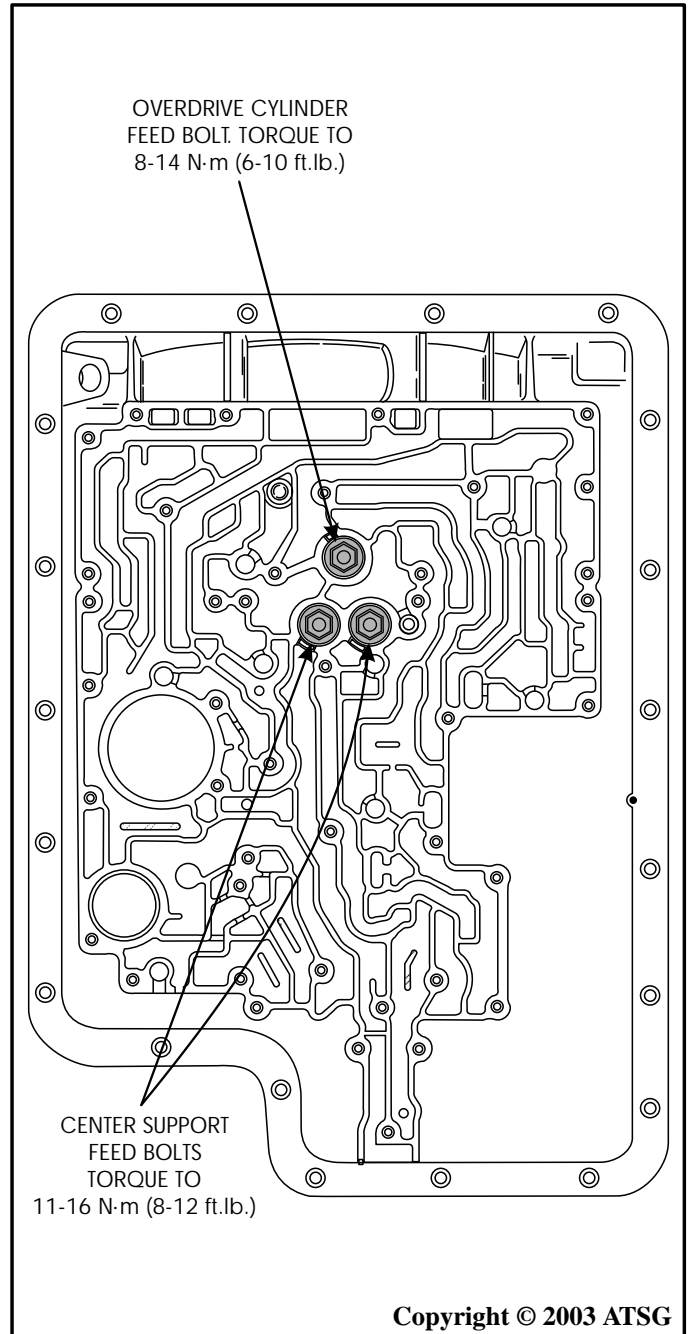

Figure 187
40. Torque overdrive clutch cylinder feed bolt to, 8-14 N·m (6-10 ft.lb.) (See Figure 187).
41. Torque both of the center support feed bolts to, 11-16 N·m (8-12 ft.lb.). (See Figure 187).